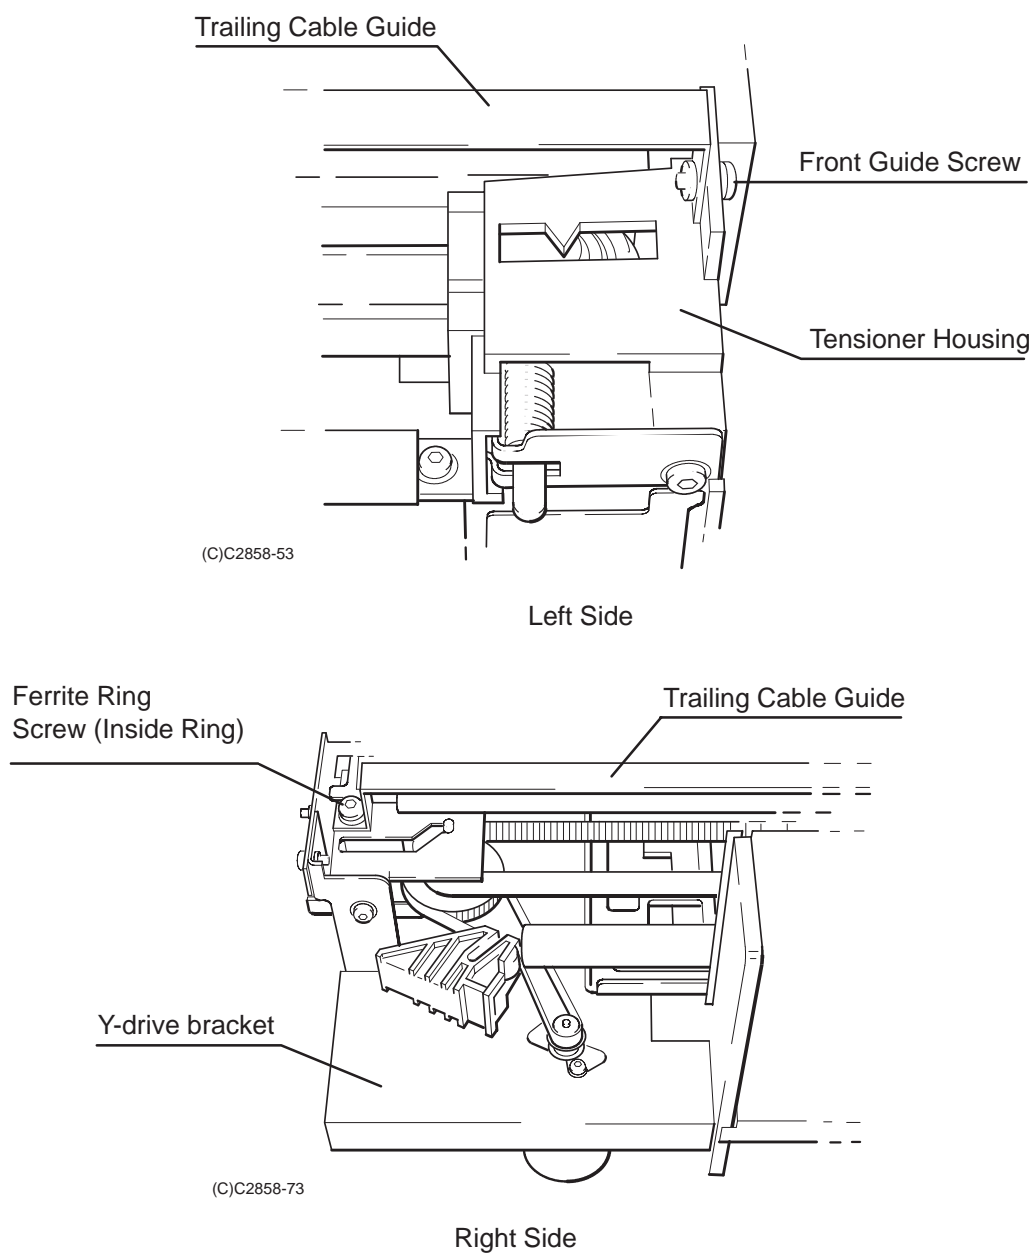

Figure 6-24.
2. Using a TORX T-15 screwdriver, remove the screw that attaches the ground strap and trailing cable guide to the tensioner housing. See Figure 6-24.